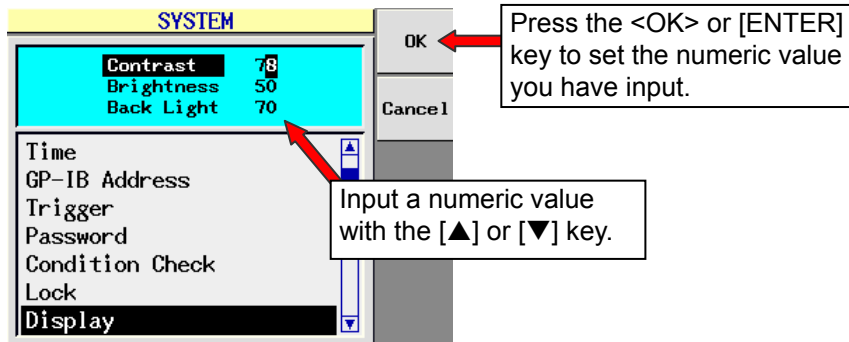

**Fig. 3-9 Display Adjustment Screen**
1. Press the [SYSTEM] key to display the SYSTEM screen. (Fig. 3-9)